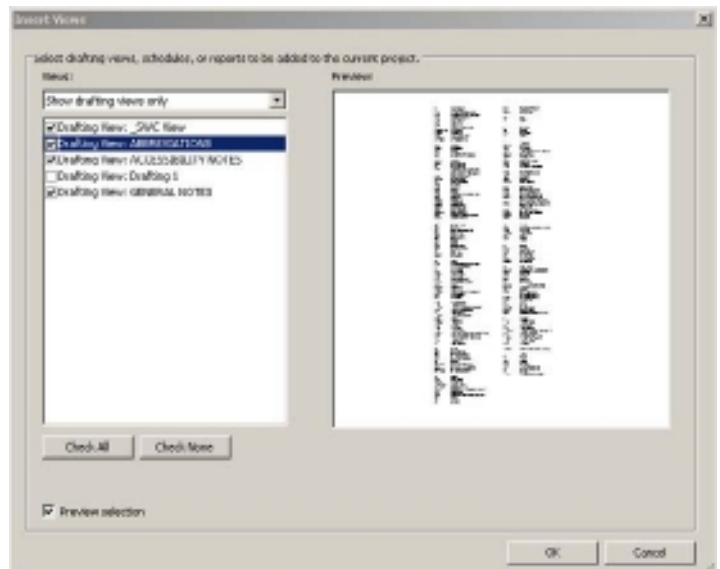

Figure 13.26
3. Select the sheet or views that are listed in the Insert Views dialog box (see Figure 13.26) that you want to insert.